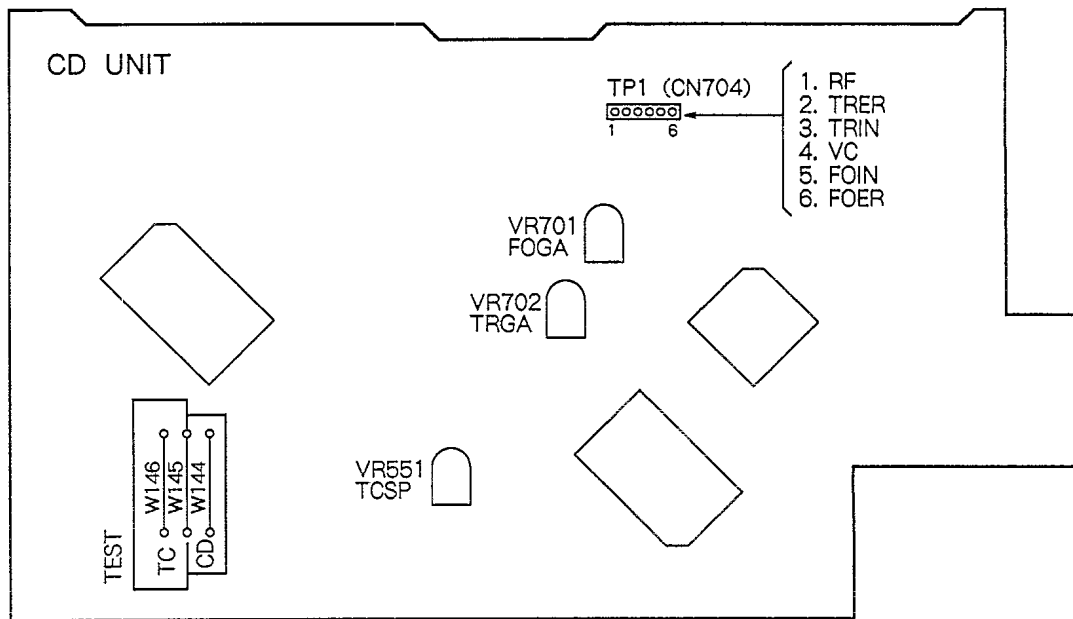

Figure 1 Adjusting points
2. Short-circuit jumer wires (W144 and W145) for the test mode (See Figure 1).